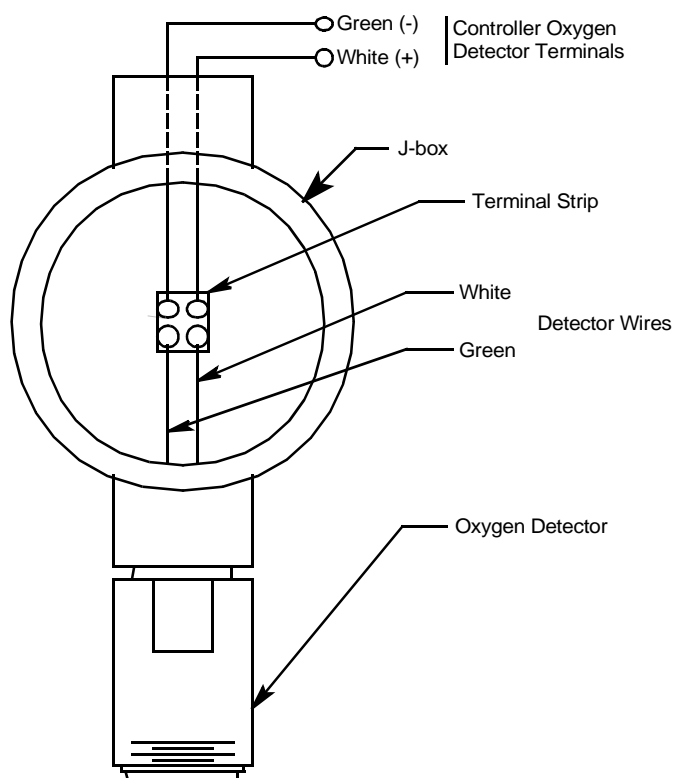

Figure 2: Wiring the Oxygen Detector to a Controller
If the detector is mounted directly to a controller, it is normally factory wired. Confirm that the detector's white and green wires are connected to the appropriate controller detector terminals and skip to "Start Up" on page 5. See Figure 2, the controller operator's manual, and the controller's detector head specification sheet for the 65-2510RK detector for the wiring connections.
7. If the detector is installed directly on a controller, connect the detector leads to the appropriate detector terminal strip terminals. See Figure 2 for wiring to a generic controller. See the controller operator's manual and the controller's detector head specification sheet for the 65-2510RK detector for wiring specific to your controller.
If the detector is installed remotely from a controller in a junction box, connect the detector leads to the terminal block the same way the old detector was wired (see Figure 2). See the controller operator's manual and the controller's detector head specification sheet for the 65-2502RK detector to verify the connections to the controller are correct.